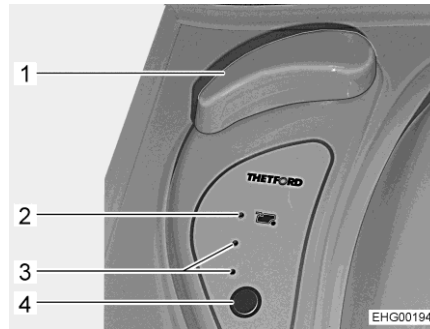

Fig. 168 Operating controls of the toilet
Opening the sliding trap: ■ Turn the rotary handle (Fig. 168,1).
Closing the sliding trap: ■ Turn the rotary handle (Fig. 168,1) back.
Flushing: ■ Before flushing open the sliding trap of the Thetford toilet. In order to do this, turn the rotary handle (Fig. 168,1).
■ For flushing, press the blue flush button (Fig. 168,4).
■ After flushing close the sliding trap. In order to do this, turn the rotary handle (Fig. 168,1) back.
The indicator lamps (Fig. 168,3) show the filling level of the sewage tank. The red indicator lamp (Fig. 168,2) lights up whenever the sewage tank has to be emptied.